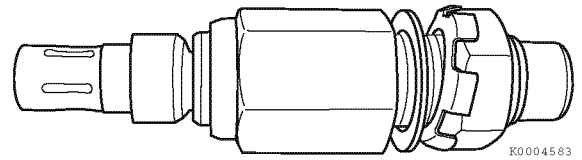

Figure 7-25
7. Assemble the new fuel limiter assembly **Figure 7-25** without the new tamper-resistant cover.